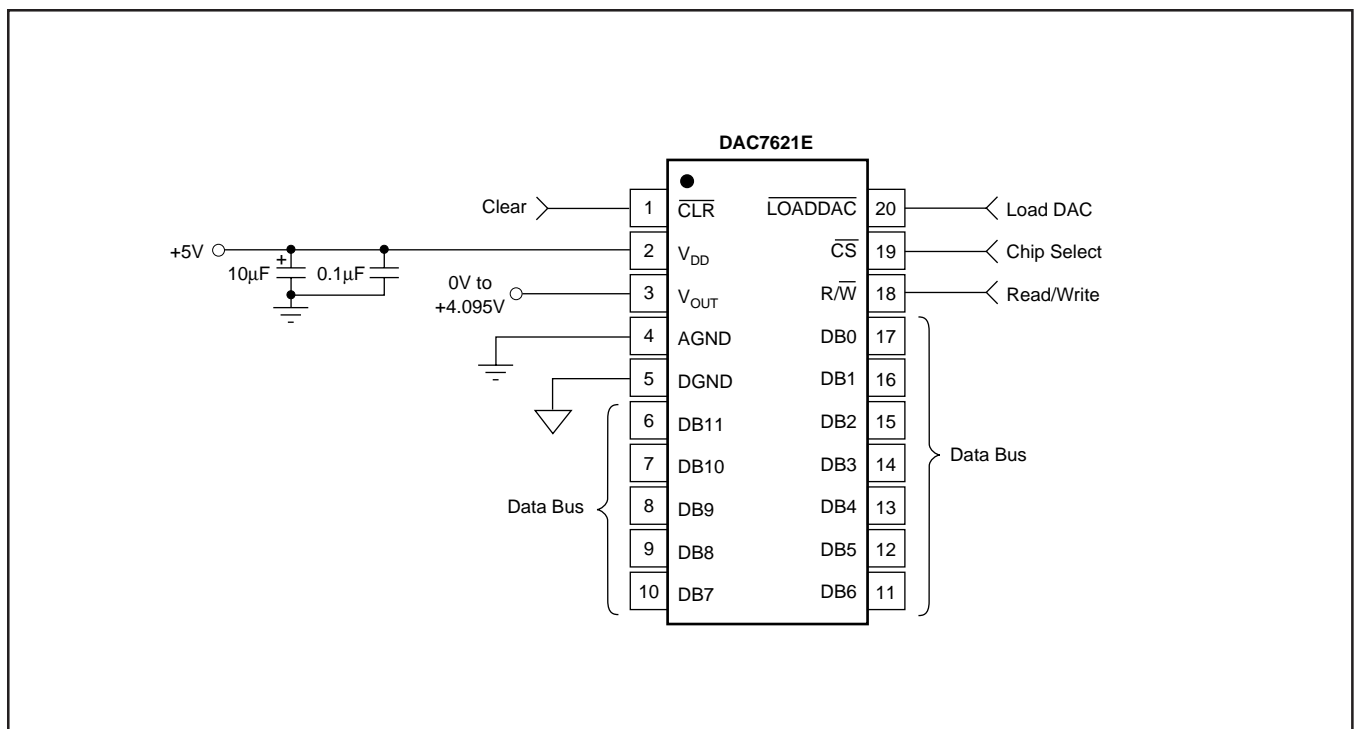

FIGURE 1. Basic Operation of the DAC7621.
The DAC7621 is a 12-bit digital-to-analog converter (DAC) complete with an input shift register, DAC register, laser-trimmed 12-bit DAC, on-board reference, and a rail-to-rail output amplifier. Figure 1 shows the basic operation of the DAC7621.
Figure 1 shows the basic connection between a microcontroller and the DAC7621. The interface consists of a Read/Write (R/W), data, and a load DAC signal ( $\overline{\text{LOADDAC}}$ ). In addition, a chip select (CS) input is available to enable the DAC7621 when there are multiple devices. The data format is Straight Binary. An asynchronous clear input (CLR) is provided to simplify start-up or periodic resets. Table I shows the relationship between input code and output voltage.
The DAC7621 power supply should be bypassed as shown in Figure 1. The bypass capacitors should be placed as close to the device as possible, with the 0.1 $\mu$ F capacitor taking priority in this regard. The "Power Supply Rejection vs Frequency" graph in the Typical Performance Curves section shows the PSRR performance of the DAC7621. This should be taken into account when using switching power supplies or DC/DC converters.